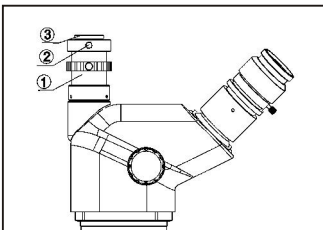

Fig.7
- (1) Screw the PK-mount ① in the head, M28 screw, tight the mount.(Fig.7)
- (2) Loosen the screw on the PK-mount ②, take out the mount of C type camera ③.
- (3) Screw the C type mount in the TV photo set.
- (4) Install the TV photo set into the PK-mount and lock the screw.